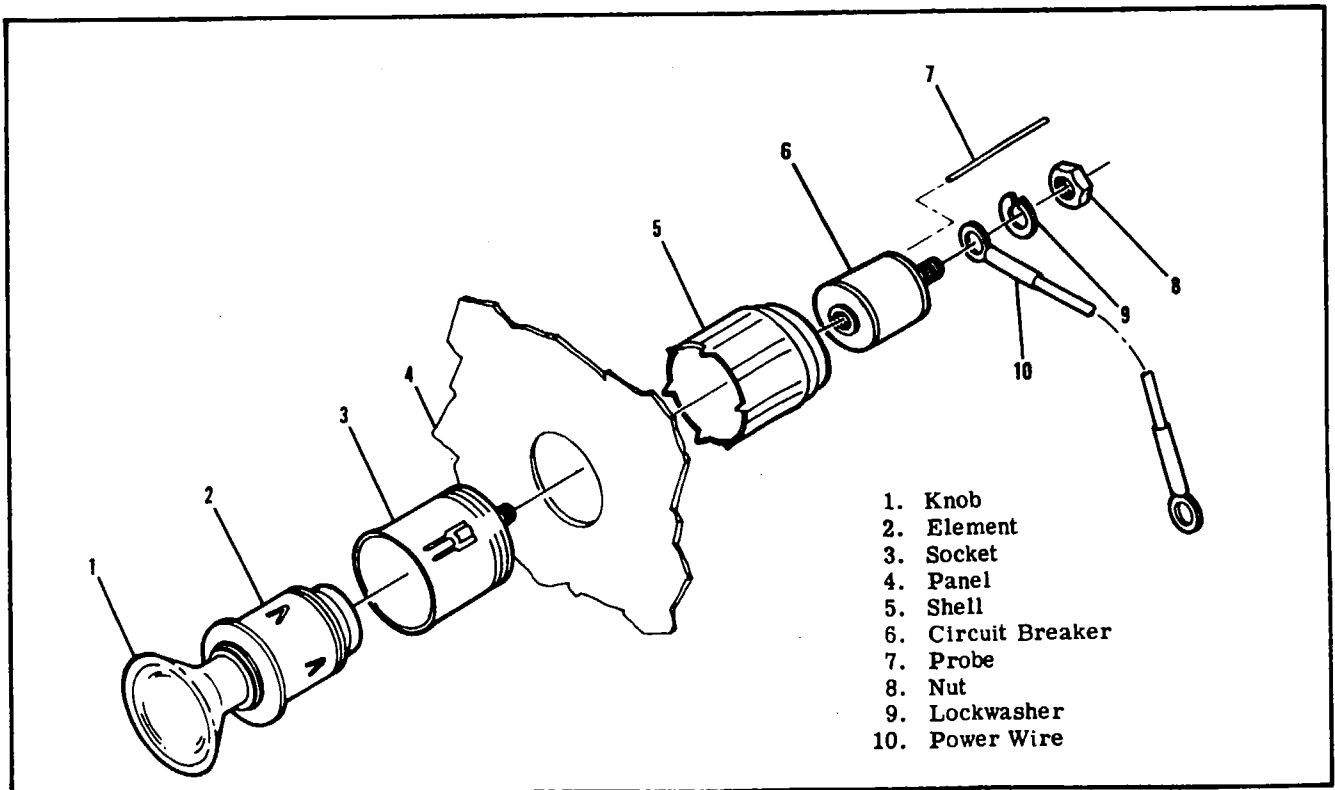

Figure 16-13. Cigar Lighter Installation
**16-61. REMOVAL AND REPLACEMENT OF CIGAR LIGHTER.** (See figure 16-13.)